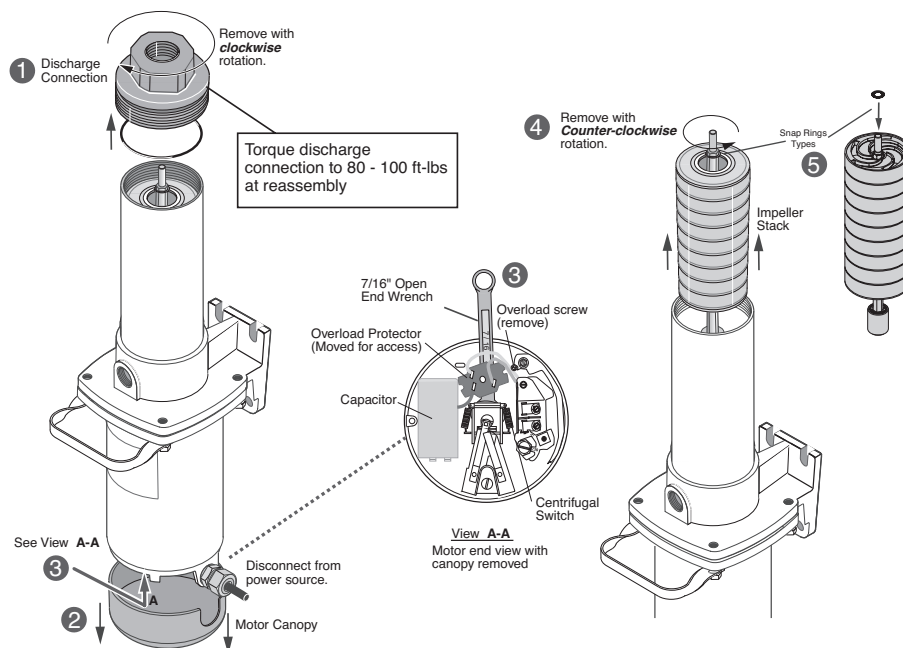

Figure 8 – Impeller Stack Replacement
1. Remove pump from service and mount vertically in vise (if available), motor side down. See Figure 8. Clamp motor at center. It may be desirable to wrap motor with a shop rag to protect outside surface.
First complete Disassembly instructions 1 through 5 under Impeller Stack Replacement. See Figure 8.